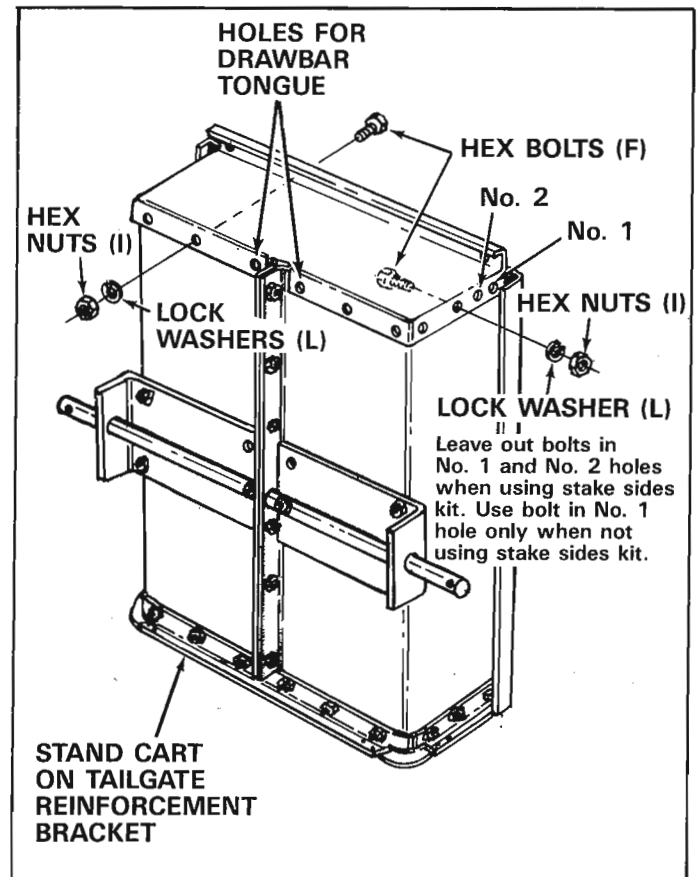

FIGURE 7
13. Lift the cart up and stand on tailgate reinforcement bracket and proceed with assembly step 14. See figure 7.
14. Assemble front panel to open end of cart body (see note below) using 1/4" x 1/2" hex bolts (F), lock washers (L) and hex nuts (I). Bolt heads to inside of cart. See figure 7.
**NOTE:** See step no. 16 for assembly of drawbar tongue and leave the (2) center bolts out for later assembly.
**Do Not** assemble bolts in No. 1 or No. 2 holes when using optional stakesides kit (each side). See figure 7.